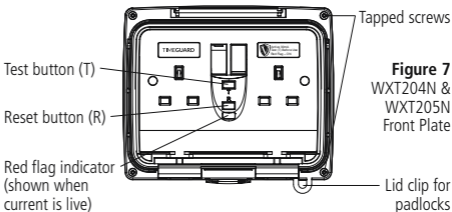

Figure 7
2. Using a Philips screwdriver, separate the faceplate from the back box by removing the four tapped screws located in each corner. See figure 7 & 8 for your chosen product.